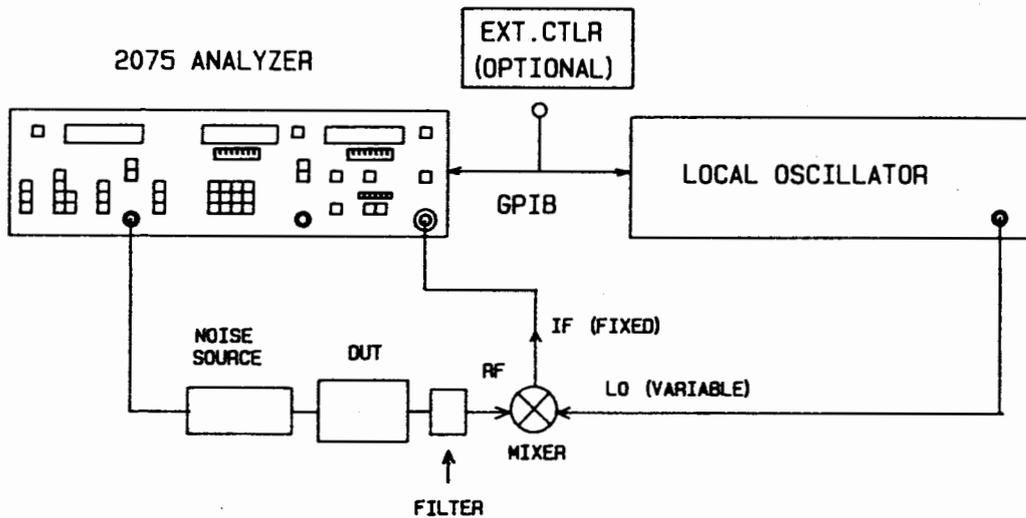

Figure 3-8b. TEST CONFIGURATION 2 MEASUREMENT (SINGLE SIDEBAND)
20. Insert the Device Under Test into the setup, as shown in Figure 3-8b. If external relays are being used, ignore this step. Upon completing the calibration, the 2075 removes the actuating voltage from the relays to place the DUT in the measurement path (unless Special Function 10.1 has been activated).